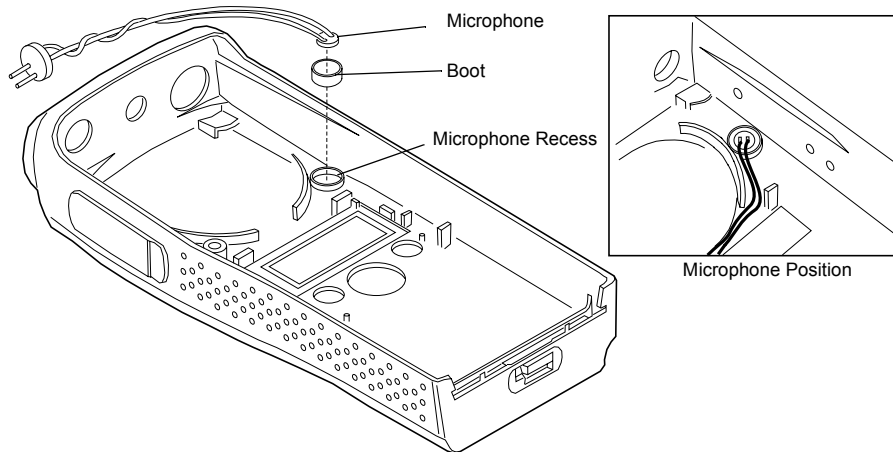

Figure 7-12. Microphone Re-assembly
3. Insert the Boot and microphone sub-assembly into the microphone recess in the housing and route wires as shown in Figure 7-12.